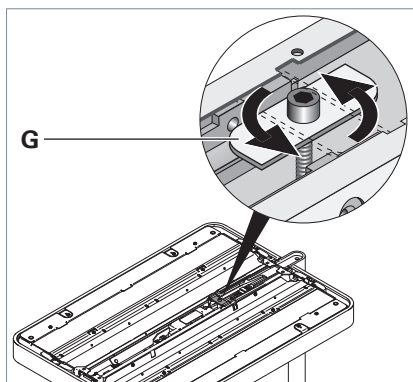

Fig. 4: Rotating the adjusting plate.
- Slightly lift the light head and rotate the adjusting plate **G** by 90°, see Fig. 4.